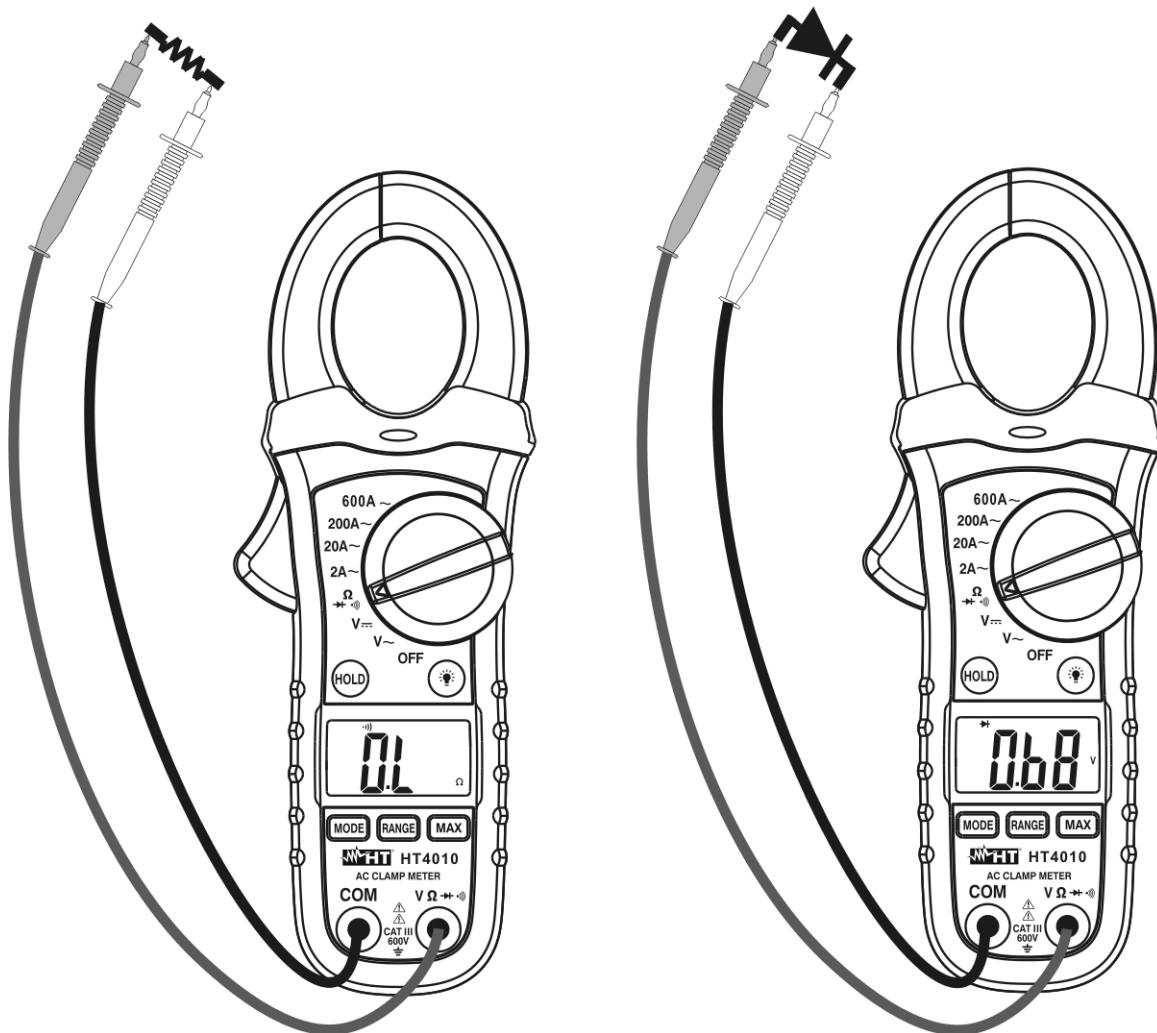

Fig. 6: Taking continuity test and diode test
3. Insert the red test lead plug into $V\Omega \rightarrow \cdot \parallel$ jack and the black test lead plug into **COM** jack and perform continuity test on the object on test (see Fig. 6 – left side). Buzzer emits sound if the measured resistance value is less about 150Ω
5. Connect the red test leads to the anode of diode on test and the black test lead on the cathode ones (see Fig. 6 – right side). The correspondent threshold voltage of P-N junction is showed on display